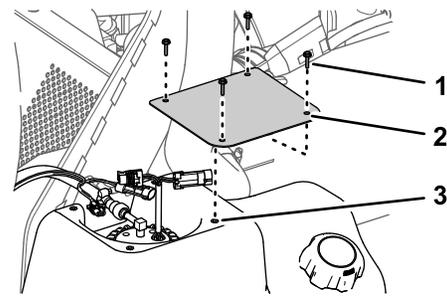

Figure 86
1. Assemble the cover to the tank (Figure 86) with the 4 screws (#10 x 3/4 inch) that you removed in step 2 of Removing the Fuel Pump Cover (page 60).